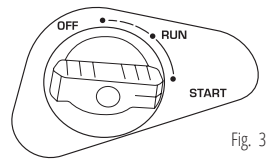

Fig. 3
4. Turn the air choke control knob to the "START" position (fig. 3)